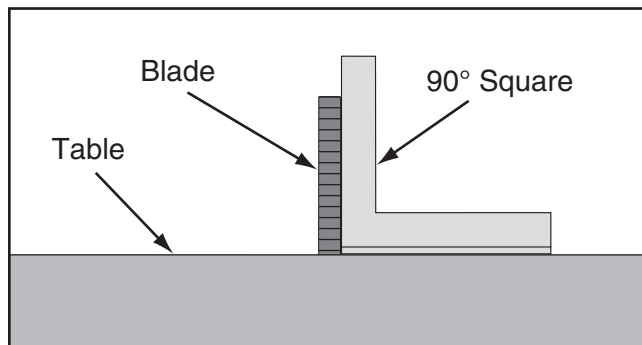

Figure 156. Machinist's square against blade and table.
4. Use machinist's square to check if main blade is square to table (see **Figure 156**).